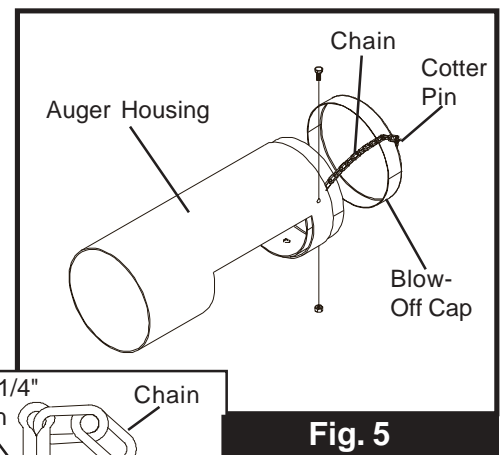

Fig. 5
- A. Place one (1) 3/32" x 1-1/4" long cotter pins onto each end link of the chain. (See Cotter Pin Detail and Fig. 5)